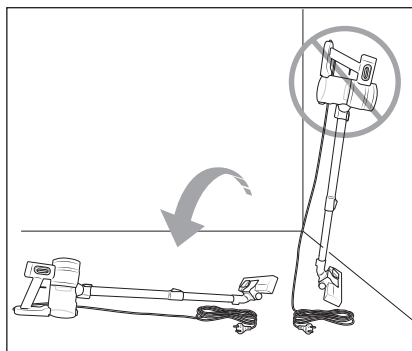

Fig. 4
- ▶ Do not attempt to place the vacuum cleaner upright when you want to put it down or take it out of your hand in the meantime. To do this, place the vacuum cleaner in the wall bracket **10** or lay it on the floor (see Fig. 4 and 5). Due to its high centre of gravity, the vacuum cleaner may otherwise tip over and be damaged and possibly damage other objects when tipping over.